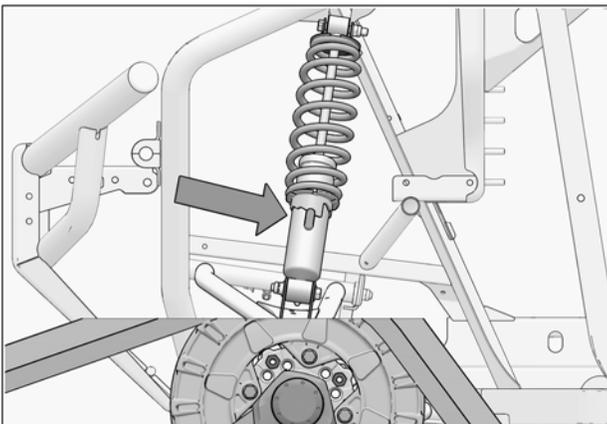

Fig. 29
1. Verify suspension settings. If the shock absorbers are adjustable, adjust them to the stiffest setting to allow for maximum clearance between the System and the vehicle's fenders. See Fig. 29